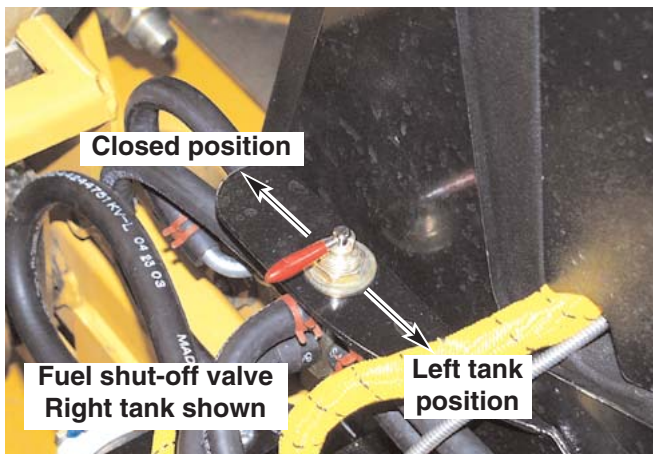

Figure 4-9b
**NOTE:** Models 927053 & 927061 are equipped with a fuel shutoff valve located on the right fuel tank mount (Fig. 4-9b). Rotate the valve to the forward position to prevent fuel flow to the fuel pump. The middle position (shown) allows fuel to flow from the right fuel tank to the fuel pump. The rear position allows fuel to flow from the left fuel tank to the fuel pump.